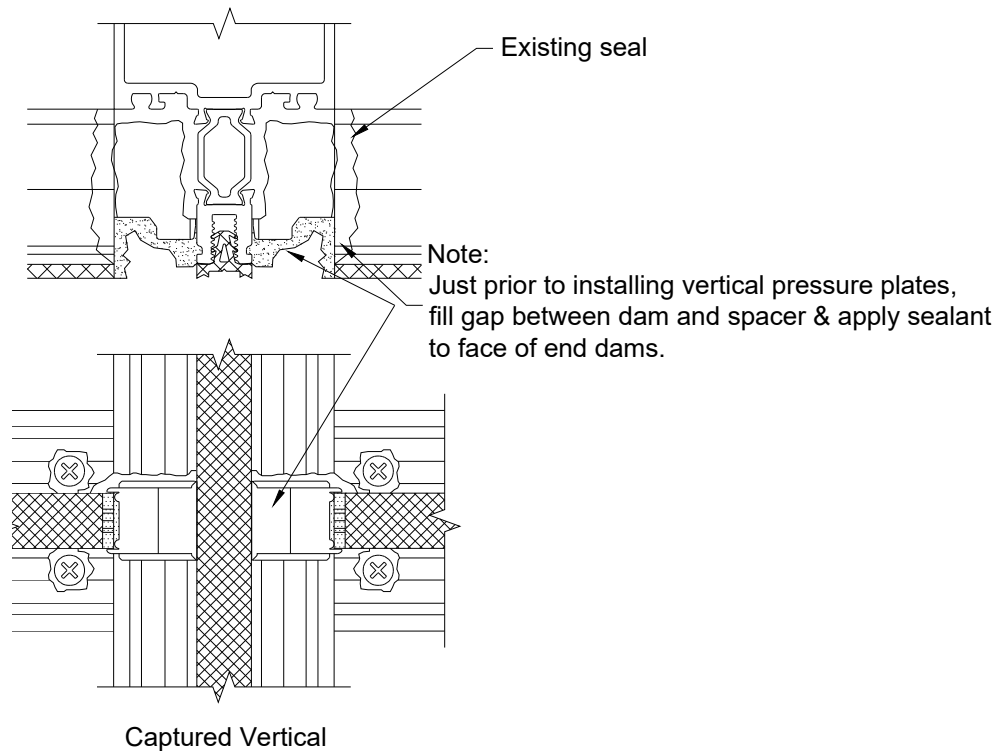

Figure 66: Sealing for Pressure Plates
- 23.5 Prior to installing vertical Pressure Plates, apply sealant to the face of each horizontal Zone Plug, captured Verticals only. See Figure 66. Vertical Pressure Plates and Face Caps must be installed before the horizontal Pressure Plates are applied.